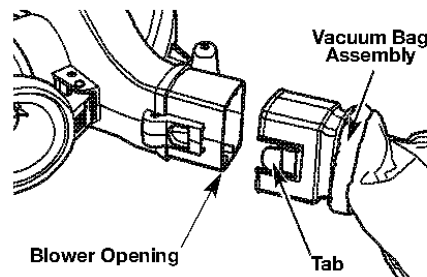

Fig. 6
8. Insert the blower opening into the vacuum bag assembly until the tab on the vacuum bag assembly is inserted into the opening on the motor housing and locks into place (Fig. 6).